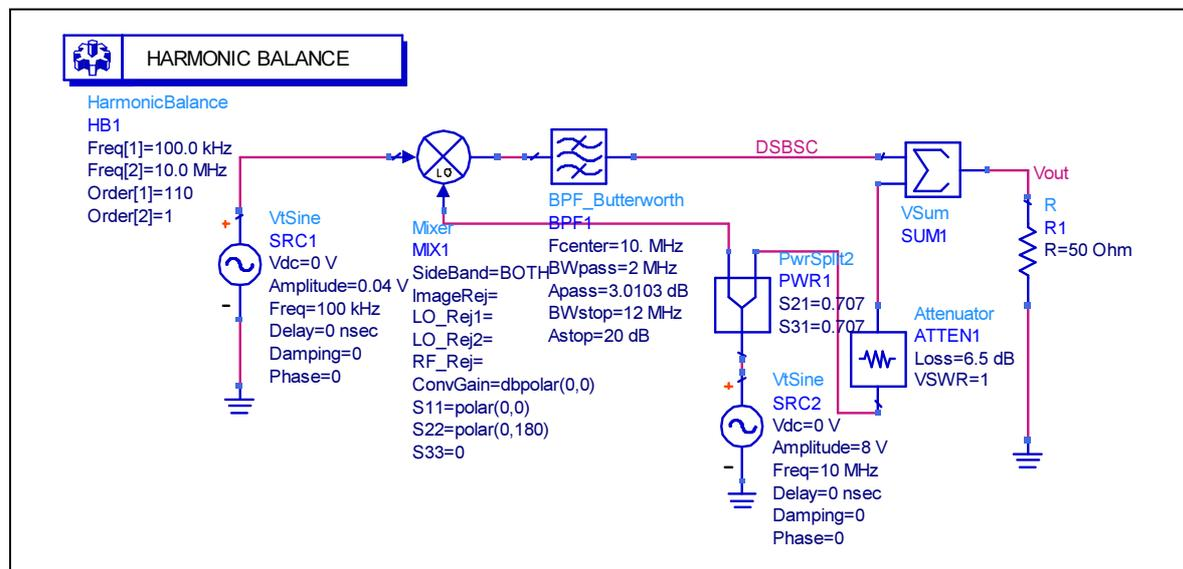

Fig. 6 AM modulator
1. Simulate an AM modulator as indicated in Fig. 6.